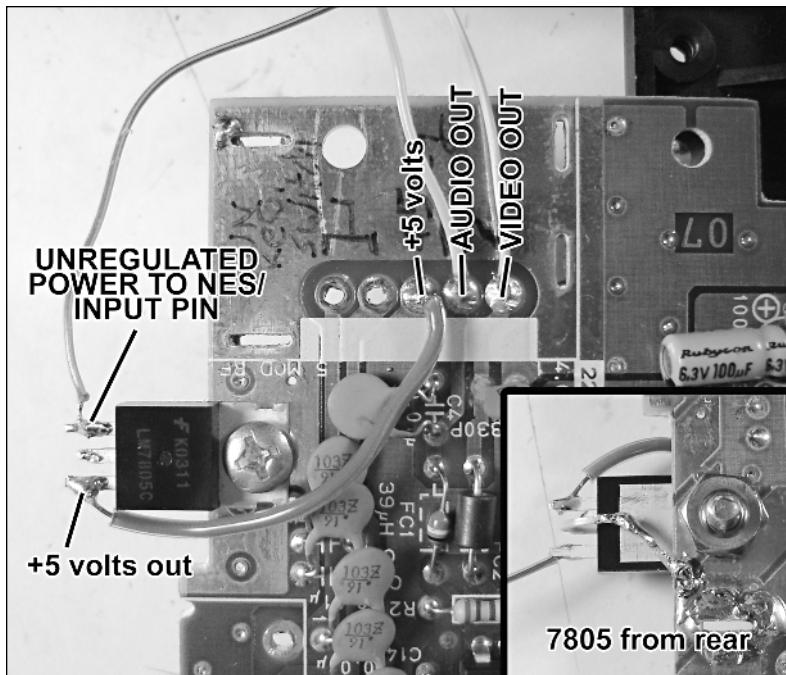

FIGURE 7-29: The 7805 regulator attached to the NES, with connections made.
3. Attach a 7805 regulator to the existing screw hole as shown in Figure 7-29. Use a short size-6 screw, lock washer, and nut to secure it. Bend the middle prong over backward, and use a bit of wire or paper clip to solder it to the ground (metal) portion of the other side of the board, as shown in the insert.
5. On the right PC board, there's a spot marked *unregulated power in*. (Again, look back at Figure 7-24.) Connect one wire from the on/off switch to this spot. Then connect this spot directly to *unregulated power to NES* on the 7805 regulator as indicated in Figure 7-29.